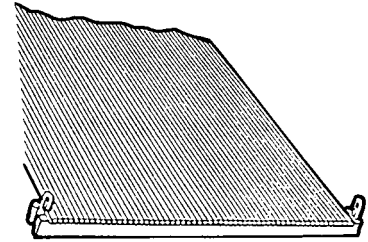

Figure 5.
2. Firmly press ribbed side of cable into alignment grooves on cover. The adhesive will help it stay in place. (See Figure 5)